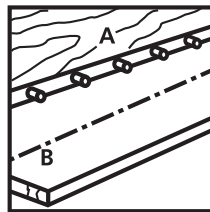

Figure 27
7. Place board B flat on workbench. Place board A on board B with the edge of board A approximately 35mm away from the centre line marked on board B. See Figure 27.